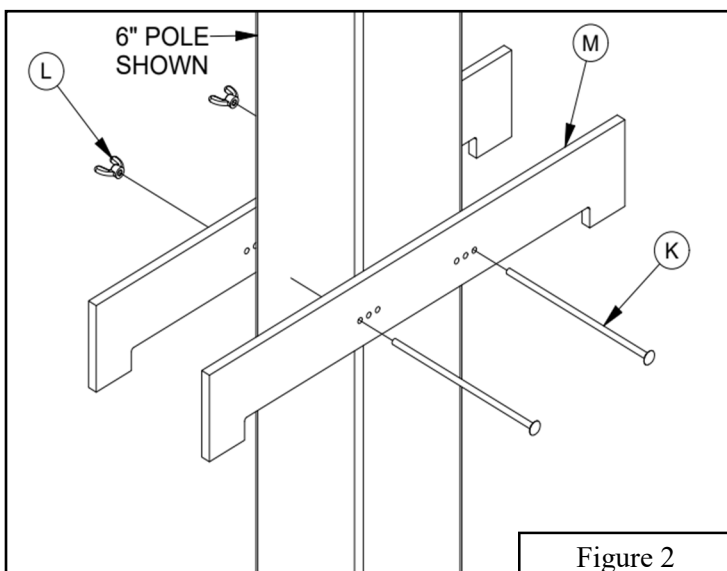

Figure 2
- 5a. Using the two $1/4"$ x 8" *Carriage Bolts* (K) and $1/4"$ *Wing Nuts* (L), sandwich the *Predrilled Wood Panels* (M) around the pole assembly at a location where the pole assembly will insert into the concrete footing. Use the set of holes that are closest to the side of the pole assembly. Position them as shown in Figure 2. The *Installation Aid* (K-M) can be adjusted to support the pole in the proper position when inserted into the concrete.
- 6a. Fill the footing to the top with medium wet fully mixed concrete. Never use the *Premix Concrete* (N) dry.
- 7a. Insert the pole assembly into the center of the footing making sure that one set of $1/2"$ x $3/4"$ *Button Head Screws* (B) are on the back side of the pole assembly, and that the front face of the pole assembly is square to the playing surface. **Position of the screws is critical to the rigidity of the pole.**
- 9a. Fill the inside of the pole assembly with wet *Premix Concrete* (N) if desired to increase pole stability. This will require approximately 1.8 cubic feet of additional *Premix Concrete* (N). Trowel the top of the footing and clean concrete off the pole for a finished look.
- 10a. **ALLOW AT LEAST 4 DAYS FOR CONCRETE TO CURE BEFORE COMPLETING THE INSTALLATION TO AVOID FOOTING FAILURE. Install *Warning Label* (GG) at eye level on the rear of the pole. If your warning label becomes damaged or is unreadable, request a no cost replacement from the manufacturer.**